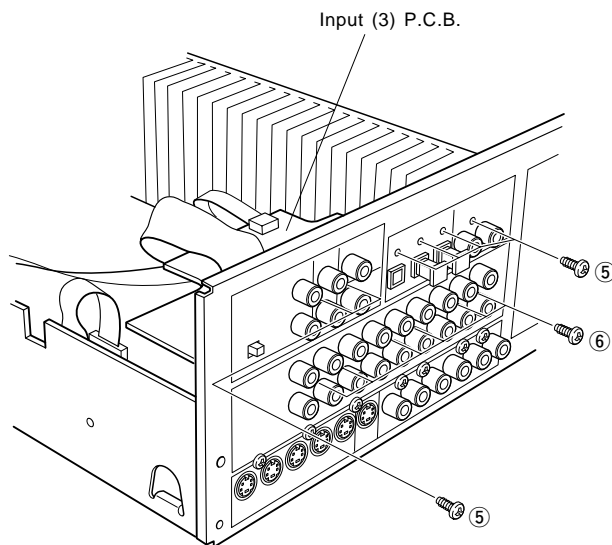

Fig. 2
4. Removal of Input (3) P.C.B.
- a. Remove 6 screws (⑤) and then remove the Input (3) P.C.B. in Fig. 2.
5. Removal of Input (1) P.C.B.
- a. Remove 6 screws (⑥) in Fig. 2.